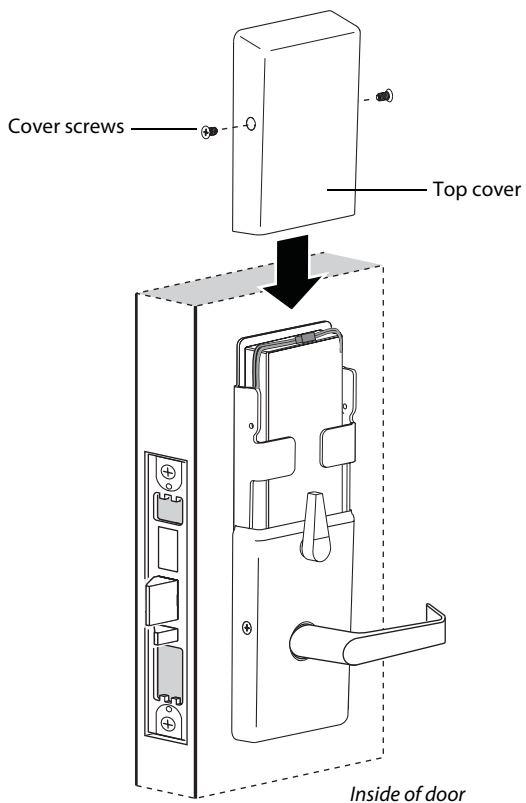

Figure 17 Installing the top cover
- 2 Use two cover screws to secure the cover to the side of the fire plate, as shown in Figure 17.